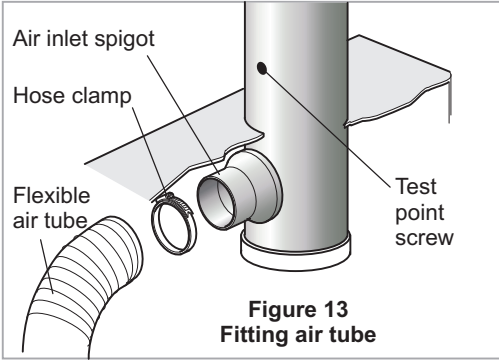

Figure 13
Connect the flexible air tube to the air inlet spigot on section (B) and secure with the hose clamp supplied (see figure 13).